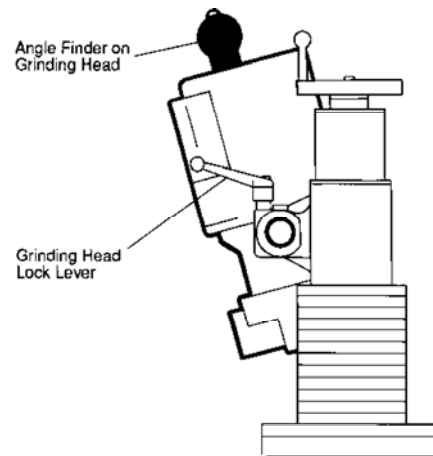

FIG. 36
2. Set the angle finder on top of the motor. See FIG. 36. Loosen the head lock lever to move the grinding head, and adjust the head so it is at the angle determined in Step 1 above.